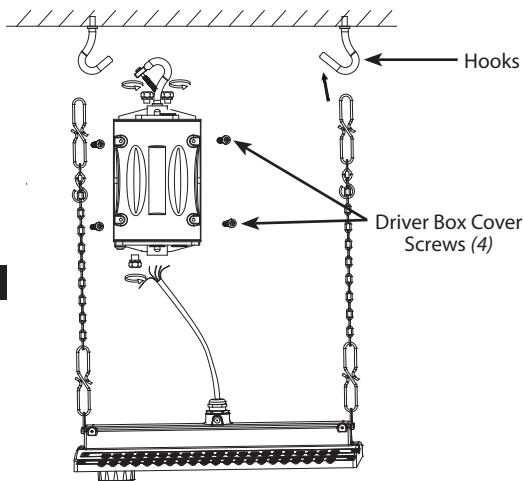

Fig. 11
1. Remove (4) **Driver Box Cover Screws** and hang the **EMHB Battery** on **Hooks** (by others), as shown in Fig. 11.